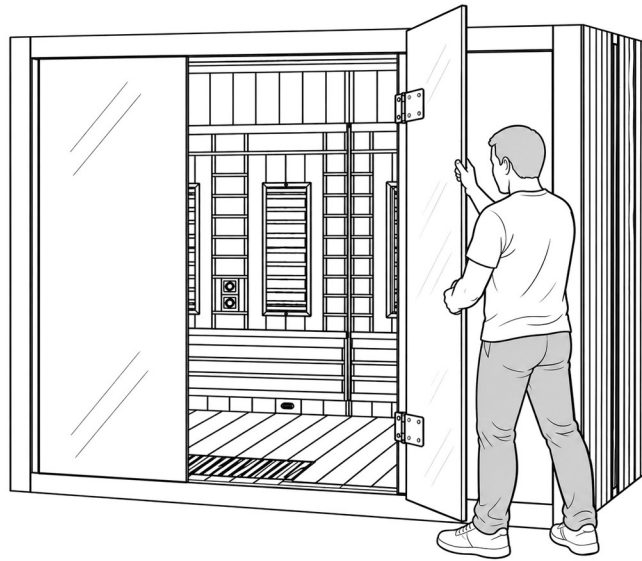

Figure 23. The Glass Door held upright and open at the door opening, with the hinges toward the Front Right Panel.
- With one person at each end, lift the Glass Door upright and carry it to the door opening, hinges toward the Front Right Panel (**Figure 23**).